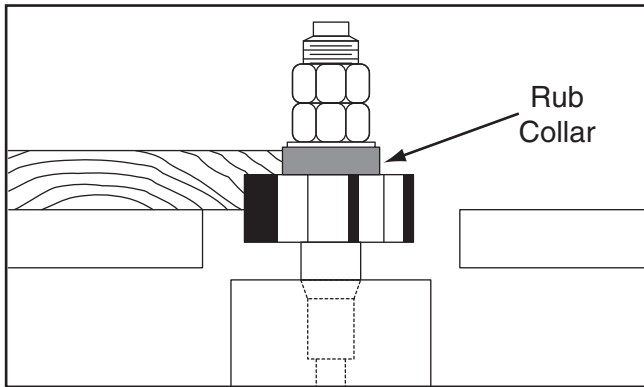

Figure 47. Cutting with rub collar above cutter.
2. **Above the cutter:** When the rub collar is used above the cutter, the cut cannot be seen (see **Figure 47**). This offers some advantage—the stock is not affected by slight variations in thickness and accidental lifting will not damage the workpiece. Simply correct any change in height by repeating the operation.